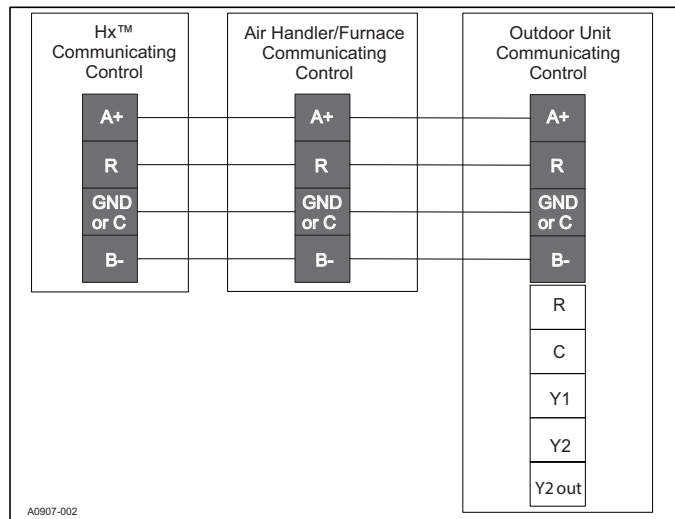

FIGURE 13: Communicating HP with Communicating Air Handler or Furnace
3. Strip the four wires and make the necessary thermostat connections noted in the thermostat wiring diagram. See figures 13 & 14.